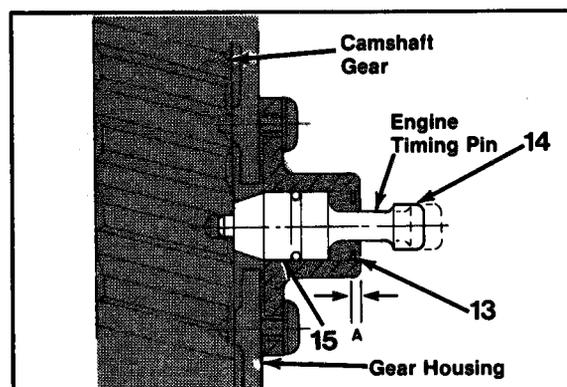

Figure 6-9
1. Using small, flat-blade screwdriver, remove retaining ring (13, Figure 6-9).
2. Remove timing pin (14).
3. Remove O-ring (15).
1. Install O-ring (15, Figure 6-9).
2. Install timing pin (14).
3. Install retaining ring (13).